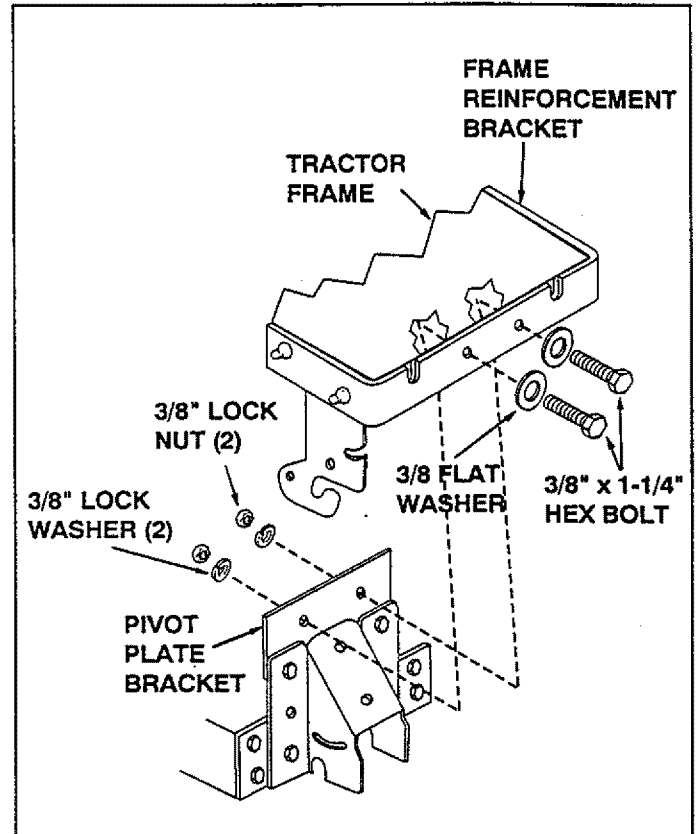

FIGURE 6
- Attach blade frame assembly to inside of tractor frame by aligning holes in pivot plate bracket with holes in front end of tractor frame and frame reinforcement bracket. Secure using two 3/8" x 1-1/4" hex bolts, 3/8" flat washers, 3/8" lock washers and 3/8" lock nuts. **Tighten these two bolts at this time.** See figure 6.